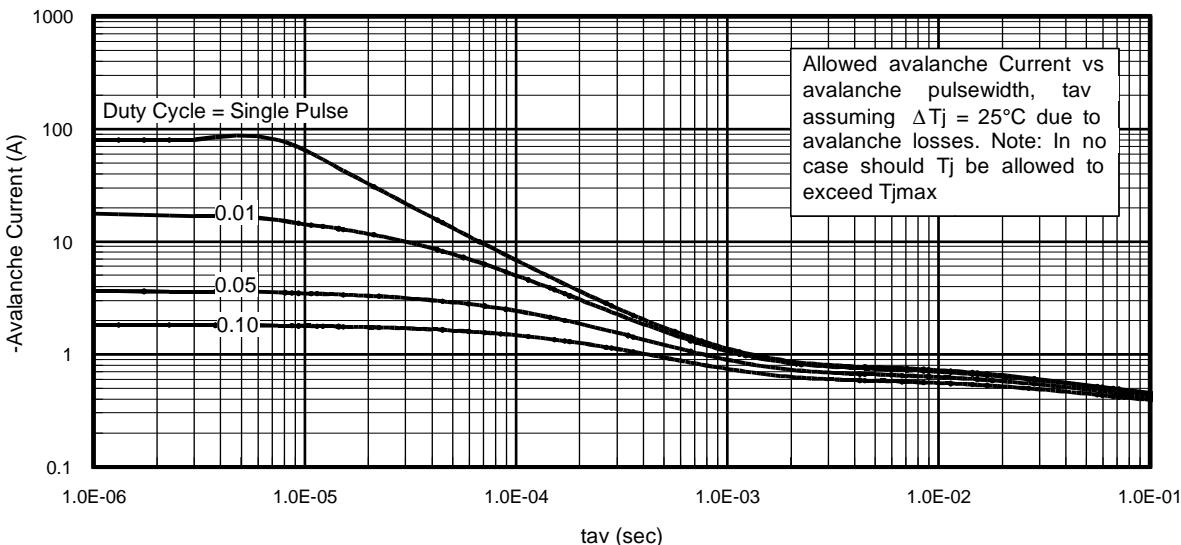

Fig 14. Typical Avalanche Current Vs. Pulsewidth
Notes on Repetitive Avalanche Curves , Figures 14, 15:
7. ΔT = Allowable rise in junction temperature, not to exceed T_{jmax} (assumed as $25^\circ C$ in Figure 14, 15).
- ① Repetitive rating; pulse width limited by max. junction temperature.
- ② Starting $T_J = 25^\circ\text{C}$, $L = 3.89\text{mH}$, $R_G = 25\Omega$, $I_{AS} = -10\text{A}$.
- ③ Pulse width $\leq 400\mu\text{s}$; duty cycle $\leq 2\%$.
- ④ R_θ is measured at T_J of approximately 90°C .
- ⑤ Limited by $T_{J\max}$. See Figs. 14, 15, 17a, 17b for repetitive avalanche information.